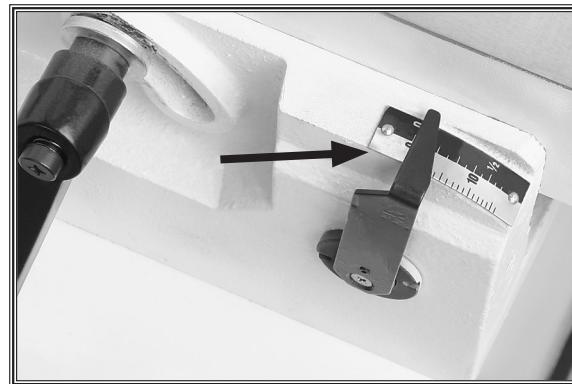

Figure 59. Depth scale adjusted to "0" position.
4. Using a screwdriver, adjust the scale pointer to "0" (Figure 59), then reset the infeed table positive stops.